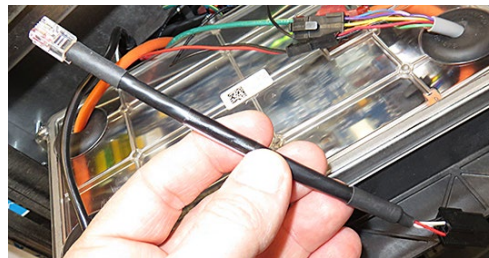

Figure 16
19. Locate the included adaptor (see Figure 16).